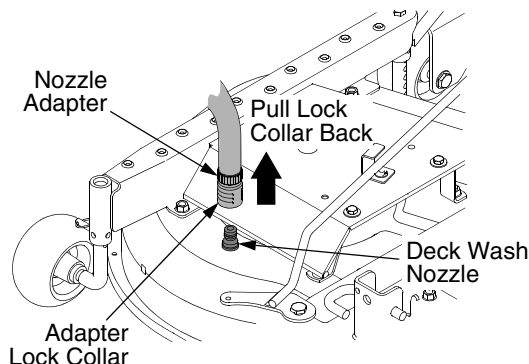

Figure 59
- Pull back the lock collar of the nozzle adapter and push the adapter onto one of the deck wash nozzles at either end of the mower deck. Release the lock collar to lock the adapter on the nozzle. See Figure 59.